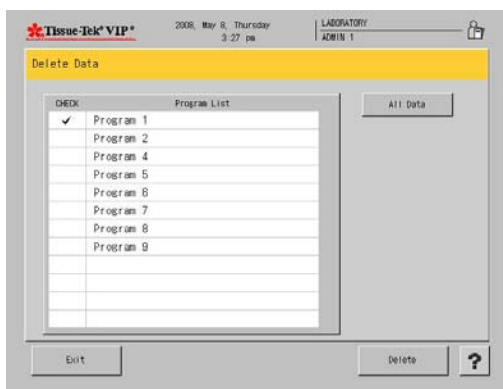

Figure 3-QQQ
- A Confirmation dialog box displays (Figure 3-QQQ).